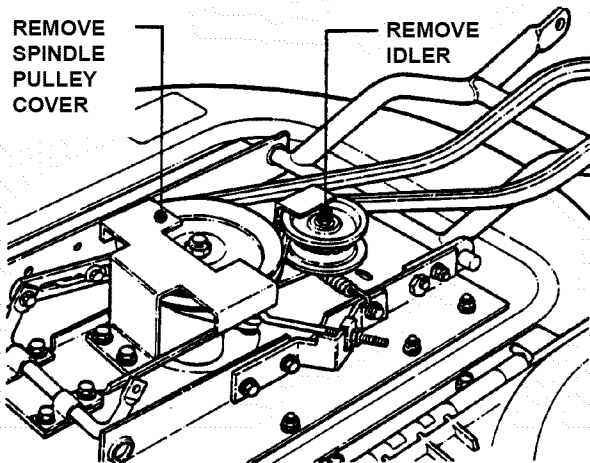

FIGURE 4.38
4. Remove deck belt idler pulley and spindle pulley cover. See Figure 4.38.